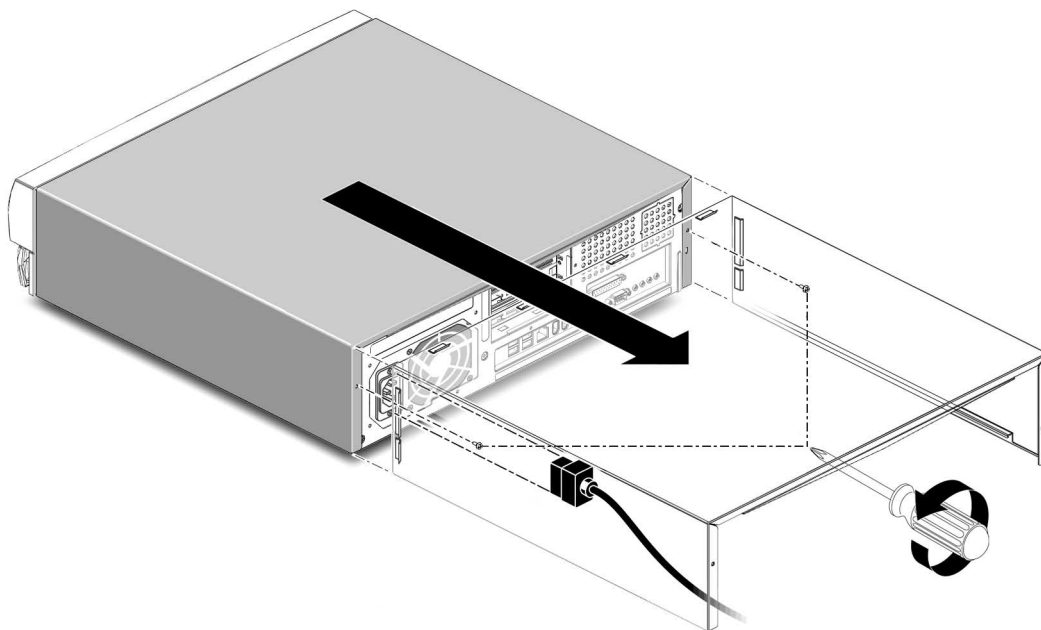

FIGURE 2 Removing the System Cover
1. **Using a No. 2 Phillips screwdriver, remove the two screws securing the system cover to the chassis (FIGURE 2).**